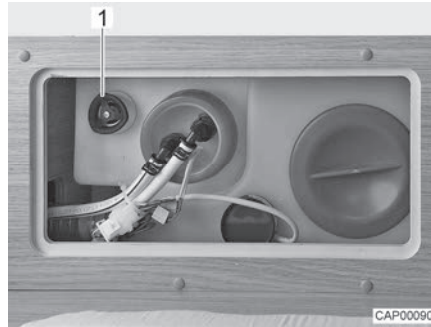

Fig. 94 Water tank with rotary handle
- Turn the rotary handle (Fig. 94,1) on the water tank in an anticlockwise direction as far as possible beyond the resistance to fully open the drainage opening.